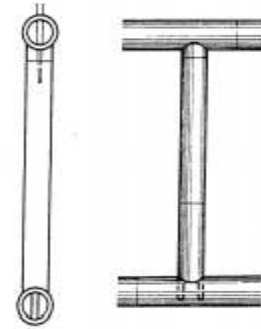

Fig. 8 Central dowel joints
- ✓ The dowels are to be insert through the holes and reach the tube wall, the length of dowel equals to the diameter of tube minus the thickness of tube wall (Fig. 8).
Figure 8 bended bamboo
Figure 8 natural bended